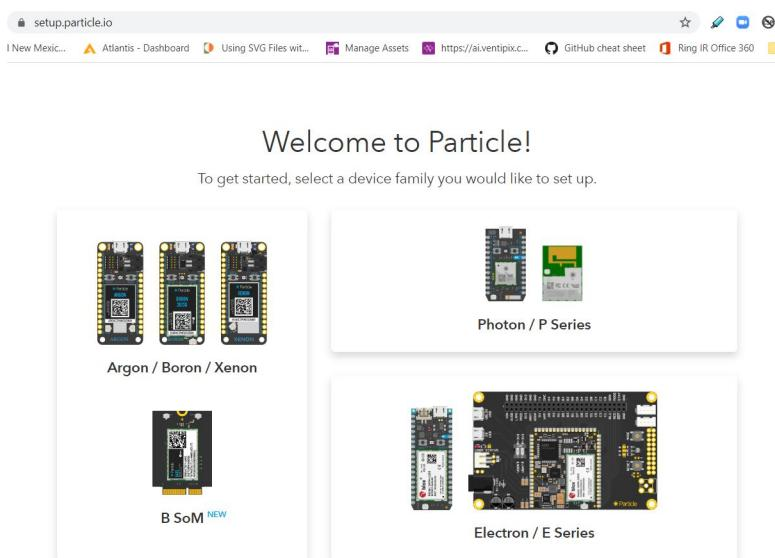

Figure 7.3: Particle Argon Setup
3. particle serial wifi (Figure 7.3)